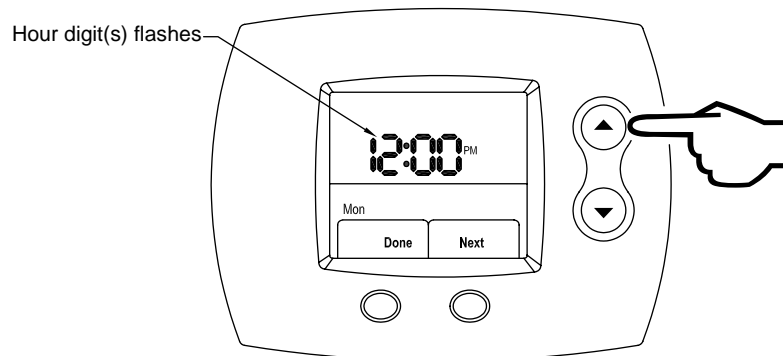

Figure 110
Step 2: Using the **UP** (increase hour) or **DOWN** (decrease hour) buttons, select the correct hour. This is shown in Figure 110.